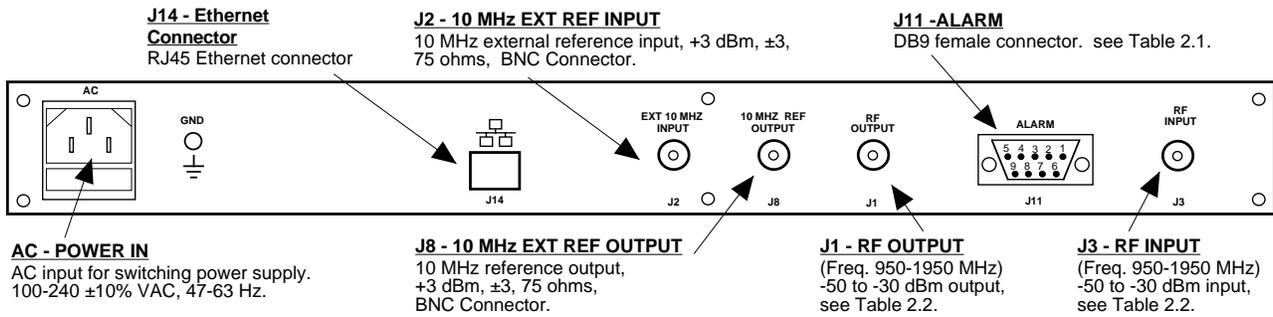

FIGURE 2.1 2083-1919-02 Rear Panel I/O's
Figure 2.1 shows the input and output connectors on the rear panel.
1. Connect a -50 dBm to -30 dBm signal to RF IN, J3 (Figure 2.1)